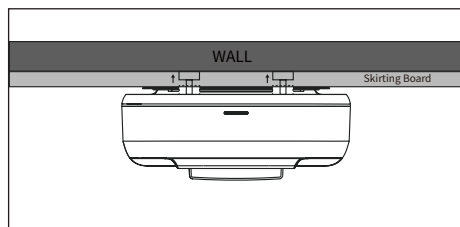

Figure 1
4. During normal operation, keep open and unobstructed within 100 cm (3.28 ft) in front and 50 cm (1.64 ft) in the left and right directions. (refer to Figure 1)